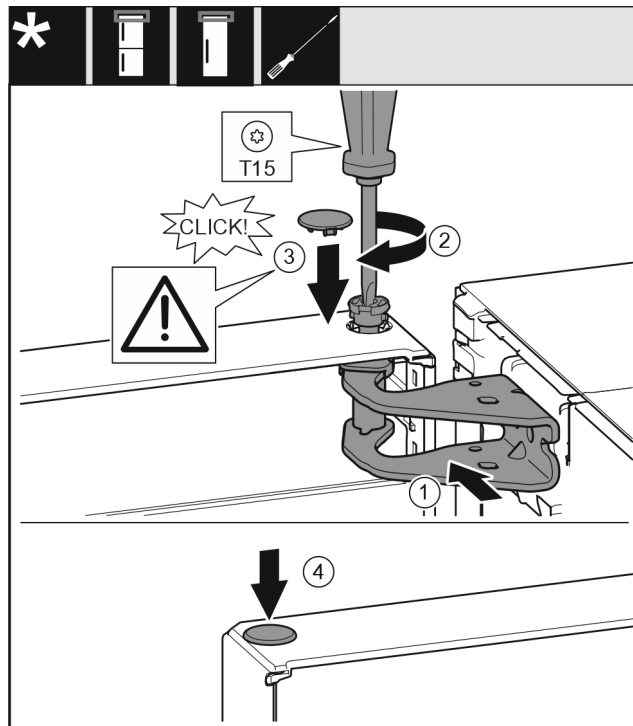

Fig. 21
- Align the top of the door with opening in the bearing bracket. Fig. 21 (1)
- Insert the bolt Fig. 21 (2) and use screwdriver to tighten it.
- Fit the safety cover Fig. 21 (3) to secure the door: Insert the safety cover and check whether the door is resting on it. Otherwise, insert the bolt fully.
- Insert the plug Fig. 21 (4).